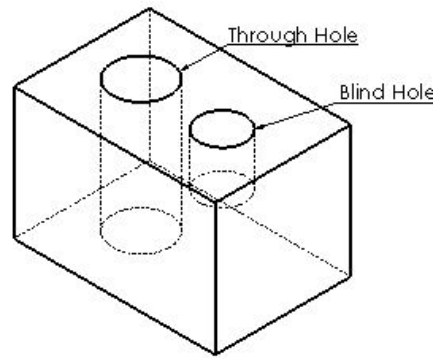

Figure Q3(e)
- e) Figure Q3(e) shows a solid model represented using B-rep. Verify whether it satisfies modified Euler's formula,